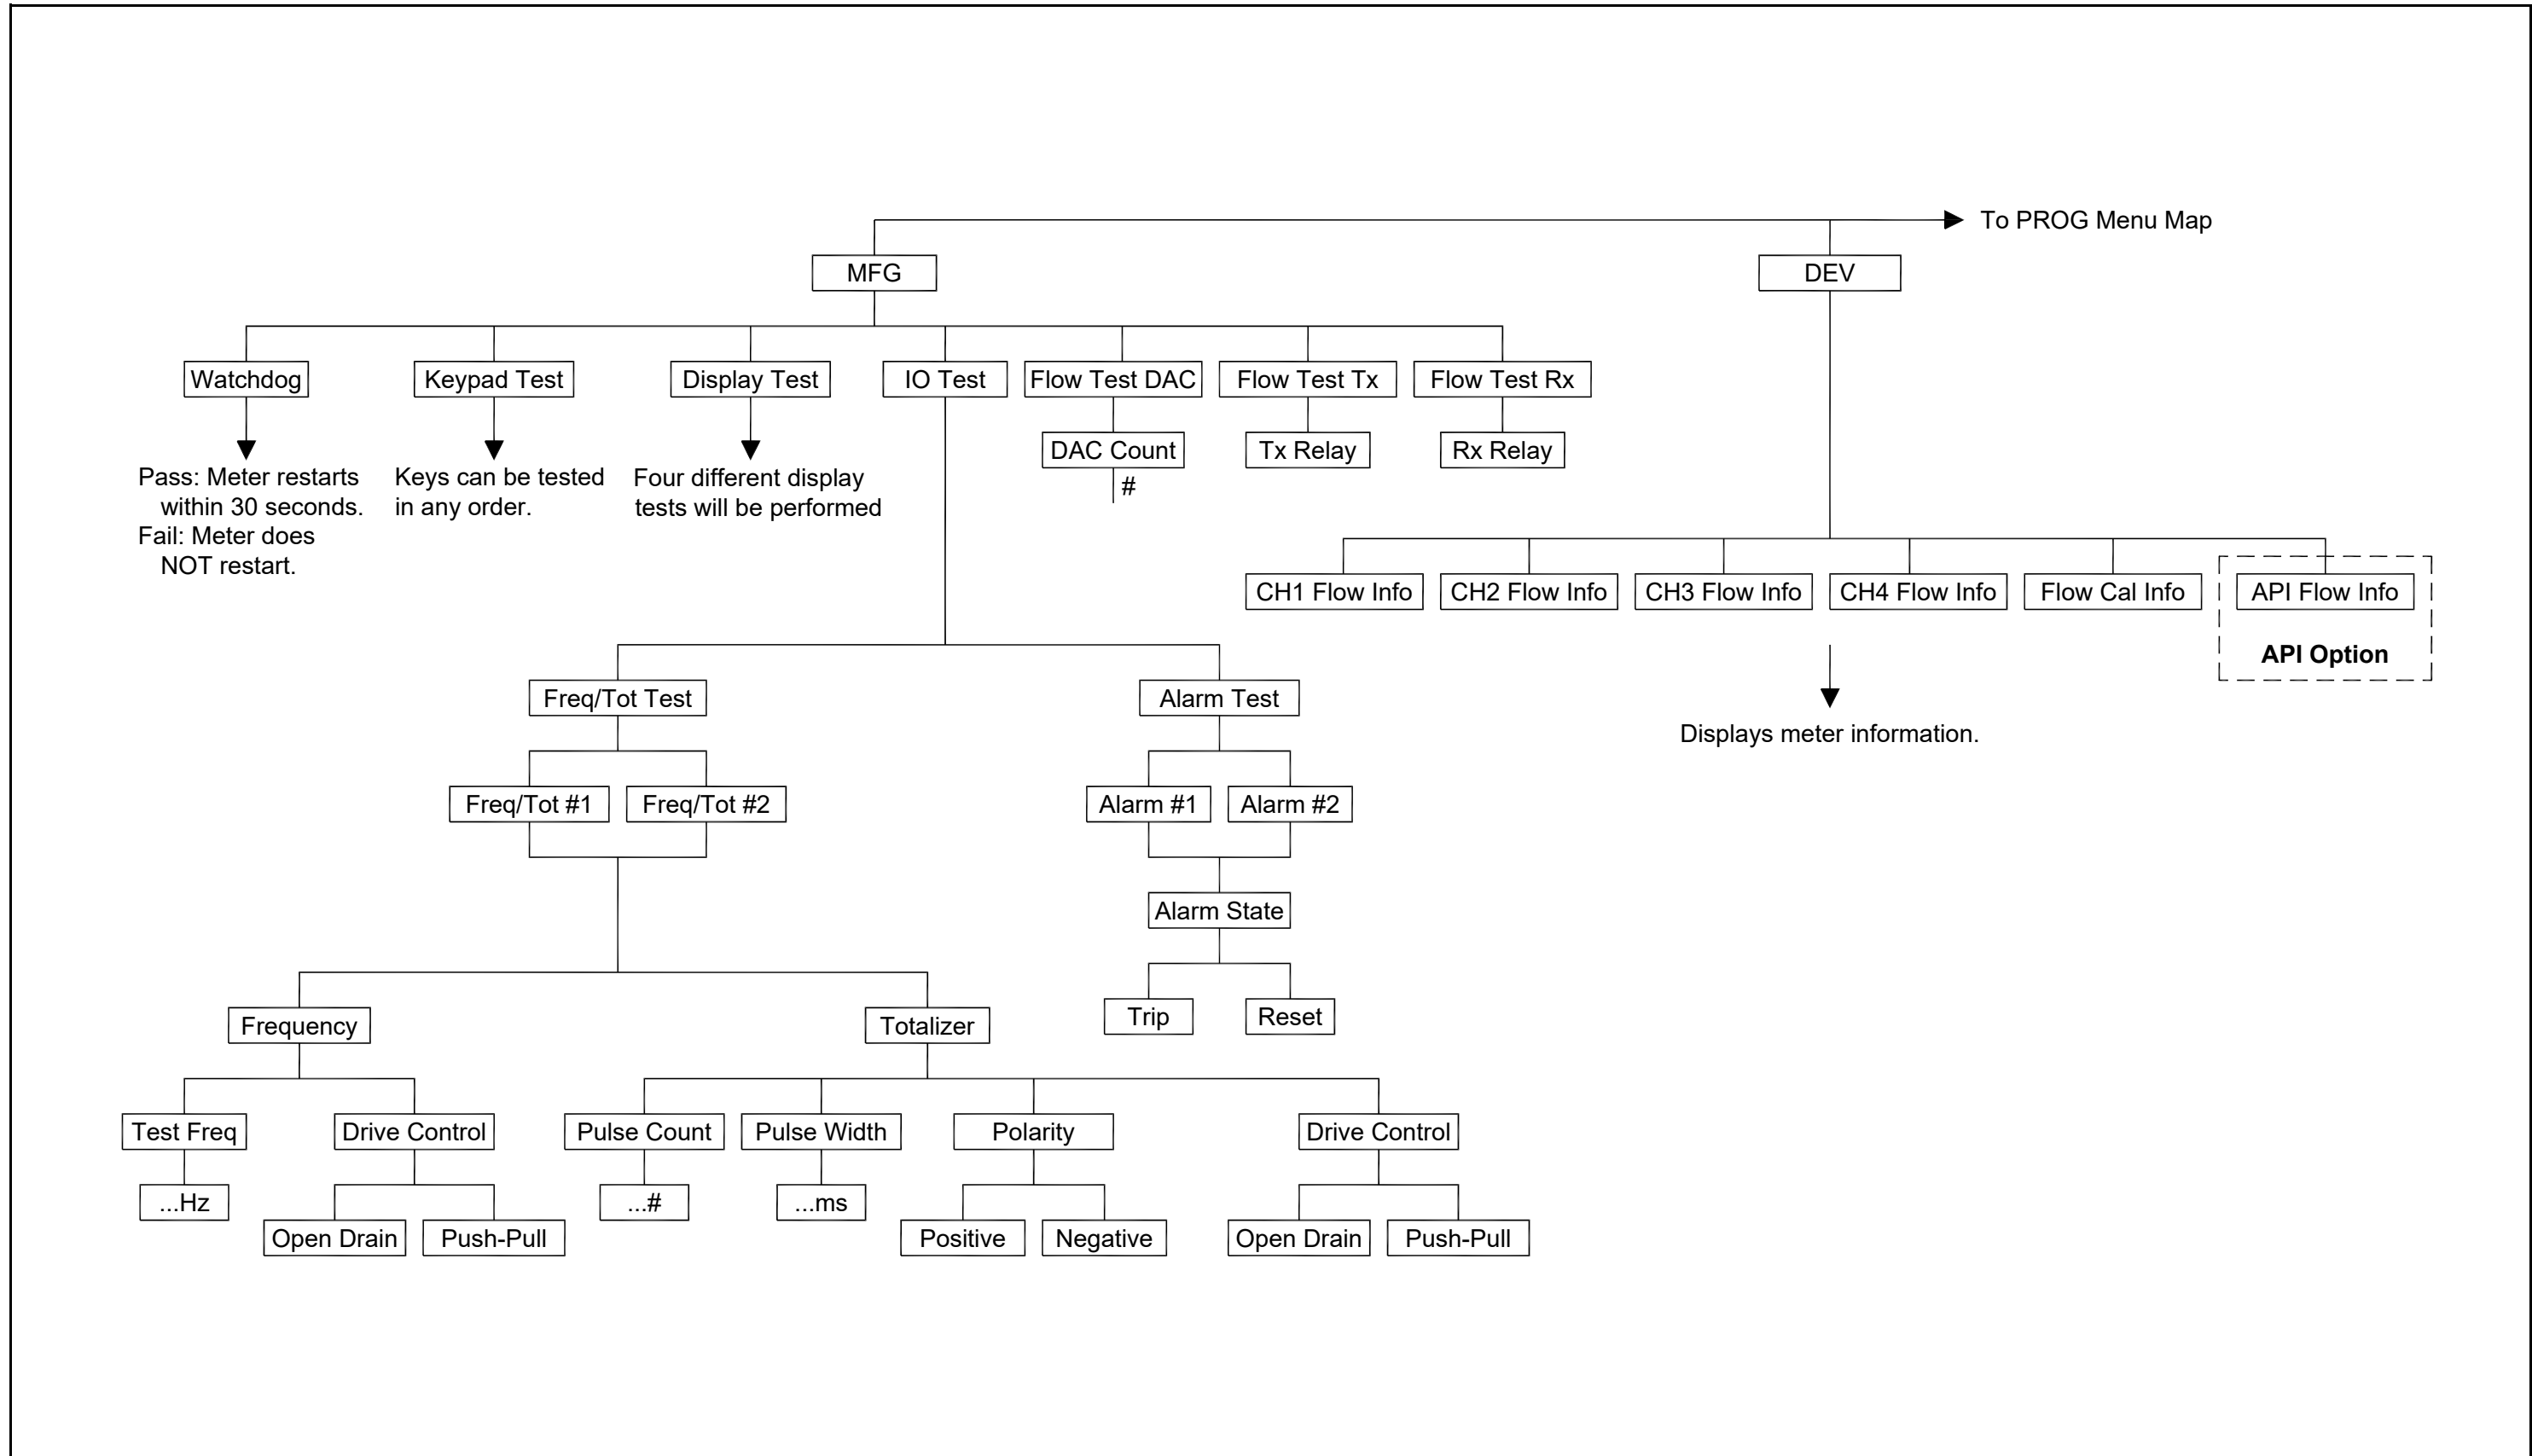

Figure 232: MFG and DEV Menu Map
- Figure 232: MFG and DEV Menu Map